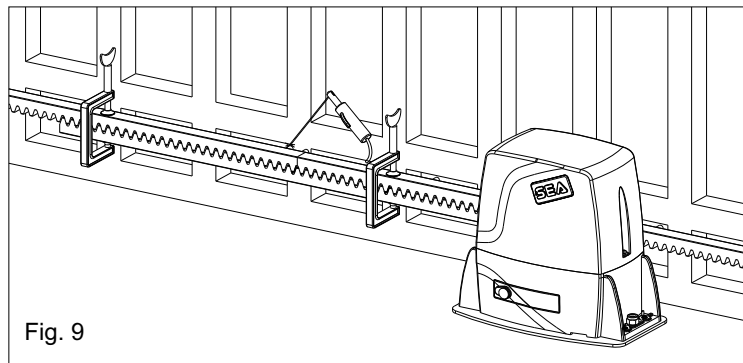

Fig. 9
5.4. Make sure that all the gear rack elements are perfectly aligned and placed correctly (teeth in phase). It's suggested to place two aligned elements in front of a third one as shown in Fig. 9;